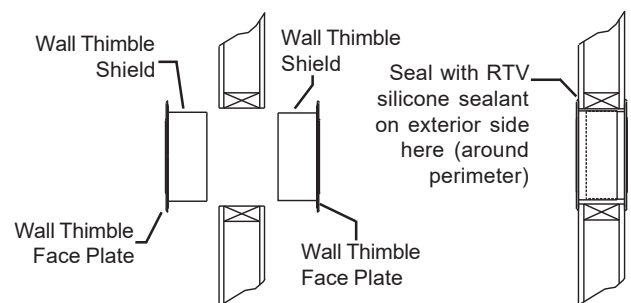

FIG. 9 WALL THIMBLE
5) If required, install the outside half of the Wall Thimble (WT) through the opening and screw or nail in place. (See FIG. 9) Seal around the perimeter of the thimble face plate on the exterior wall using an RTV Silicone Sealant to provide protection from possible rain infiltration (see FIG. 9).